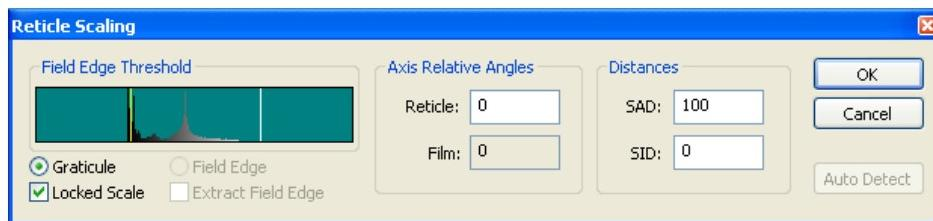

Figure 28: Reticle Scaling Dialog Box
6. Click  to open the Reticle Scaling dialog box, shown in Figure 28.